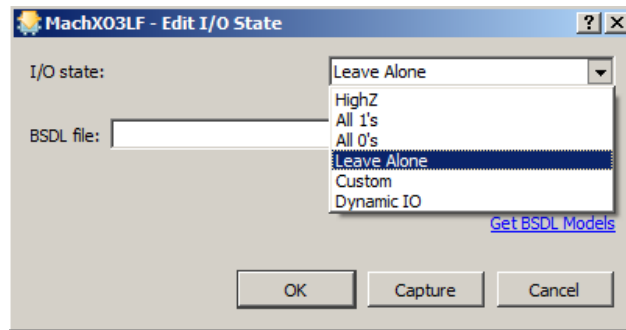

Figure 6.13. Edit I/O State Dialog Box
2. In the Edit I/O State dialog box, from the I/O state drop-down list select **Leave Alone** as shown in Figure 6.13. Click **OK** to confirm this selection.